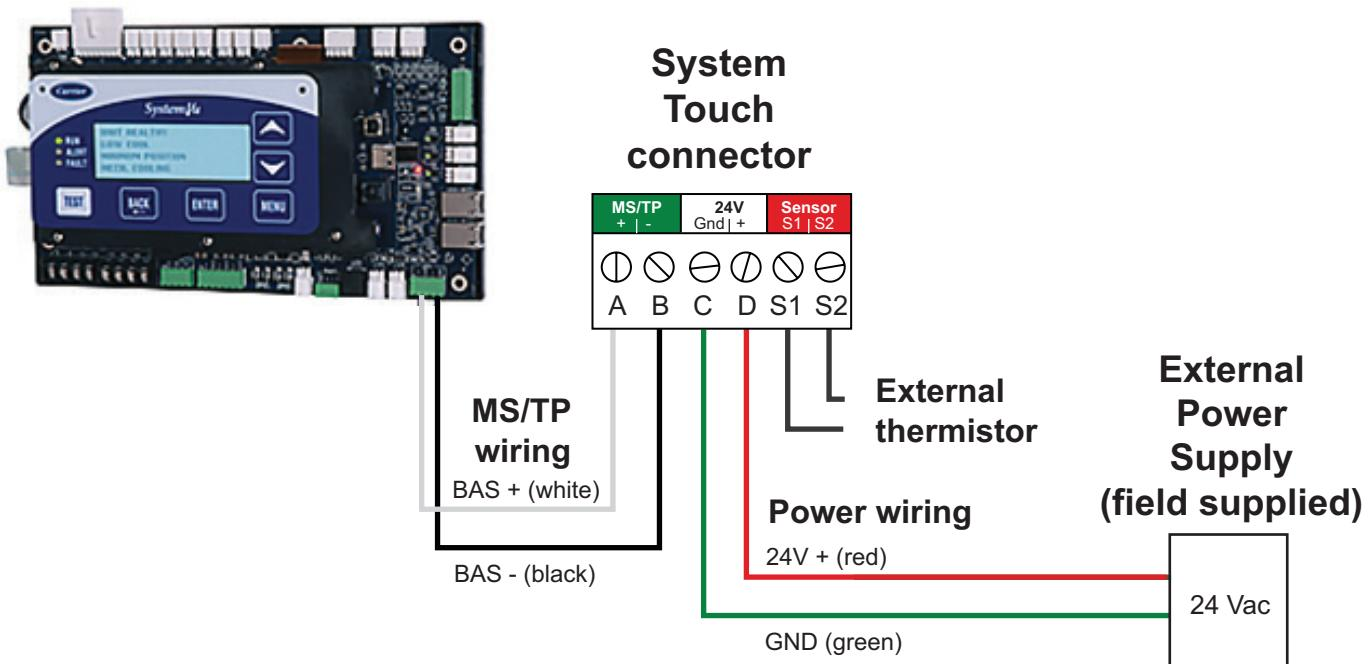

Fig. 9 – SystemVu to System Touch MS/TP Pin Connections
3. Connect System Touch to SystemVu over MS/TP as shown in Fig. 9.